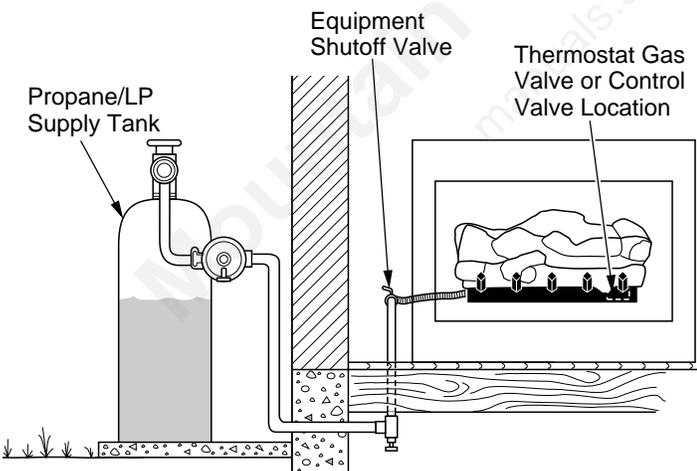

Figure 19 - Checking Gas Joints (Propane/LP Only)
3. Check all joints from gas meter to equipment shutoff valve for natural gas or propane/LP supply to equipment shutoff valve for propane/LP (see Figure 19, page 14). Apply noncorrosive leak detection fluid to all joints. Bubbles forming show a leak.
4. Check all joints from equipment shutoff valve to thermostat gas valve (Thermostat-Controlled Models), to control valve (Manually-Controlled Models), or to gas control (Remote-Ready Models) (see Figures 19 and 20). Apply noncorrosive leak detection fluid to all joints. Bubbles forming show a leak.